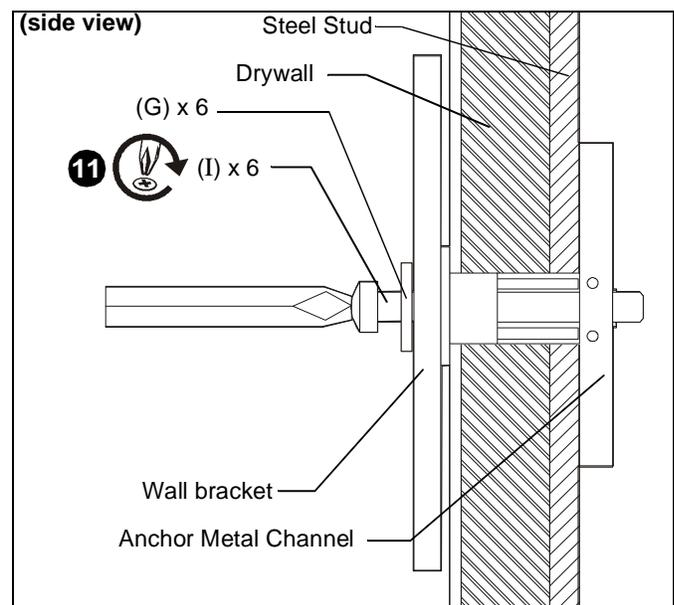

**Figure 10**
8. Snap off plastic straps on anchor at wall by pushing side to side, snapping off straps level with flange of plastic cap. (See Figure 10)